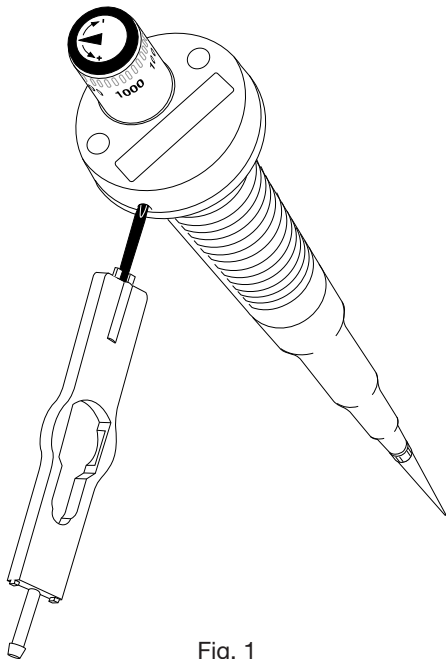

Fig. 1
5. To adjust the device, insert the tool provided into the appropriate opening or other position and set the actual volume (see Fig. 1 – 7 or consult the instruction manual).
Using side B of the universal tool provided (order no. 4910 092.001), loosen the inner screw until the control button can be rotated (see Fig. 1). Adjust the control button to the volume which has been obtained under point 4 (see instruction manual). One revolution of the control button is equivalent to the following (figures based on water):